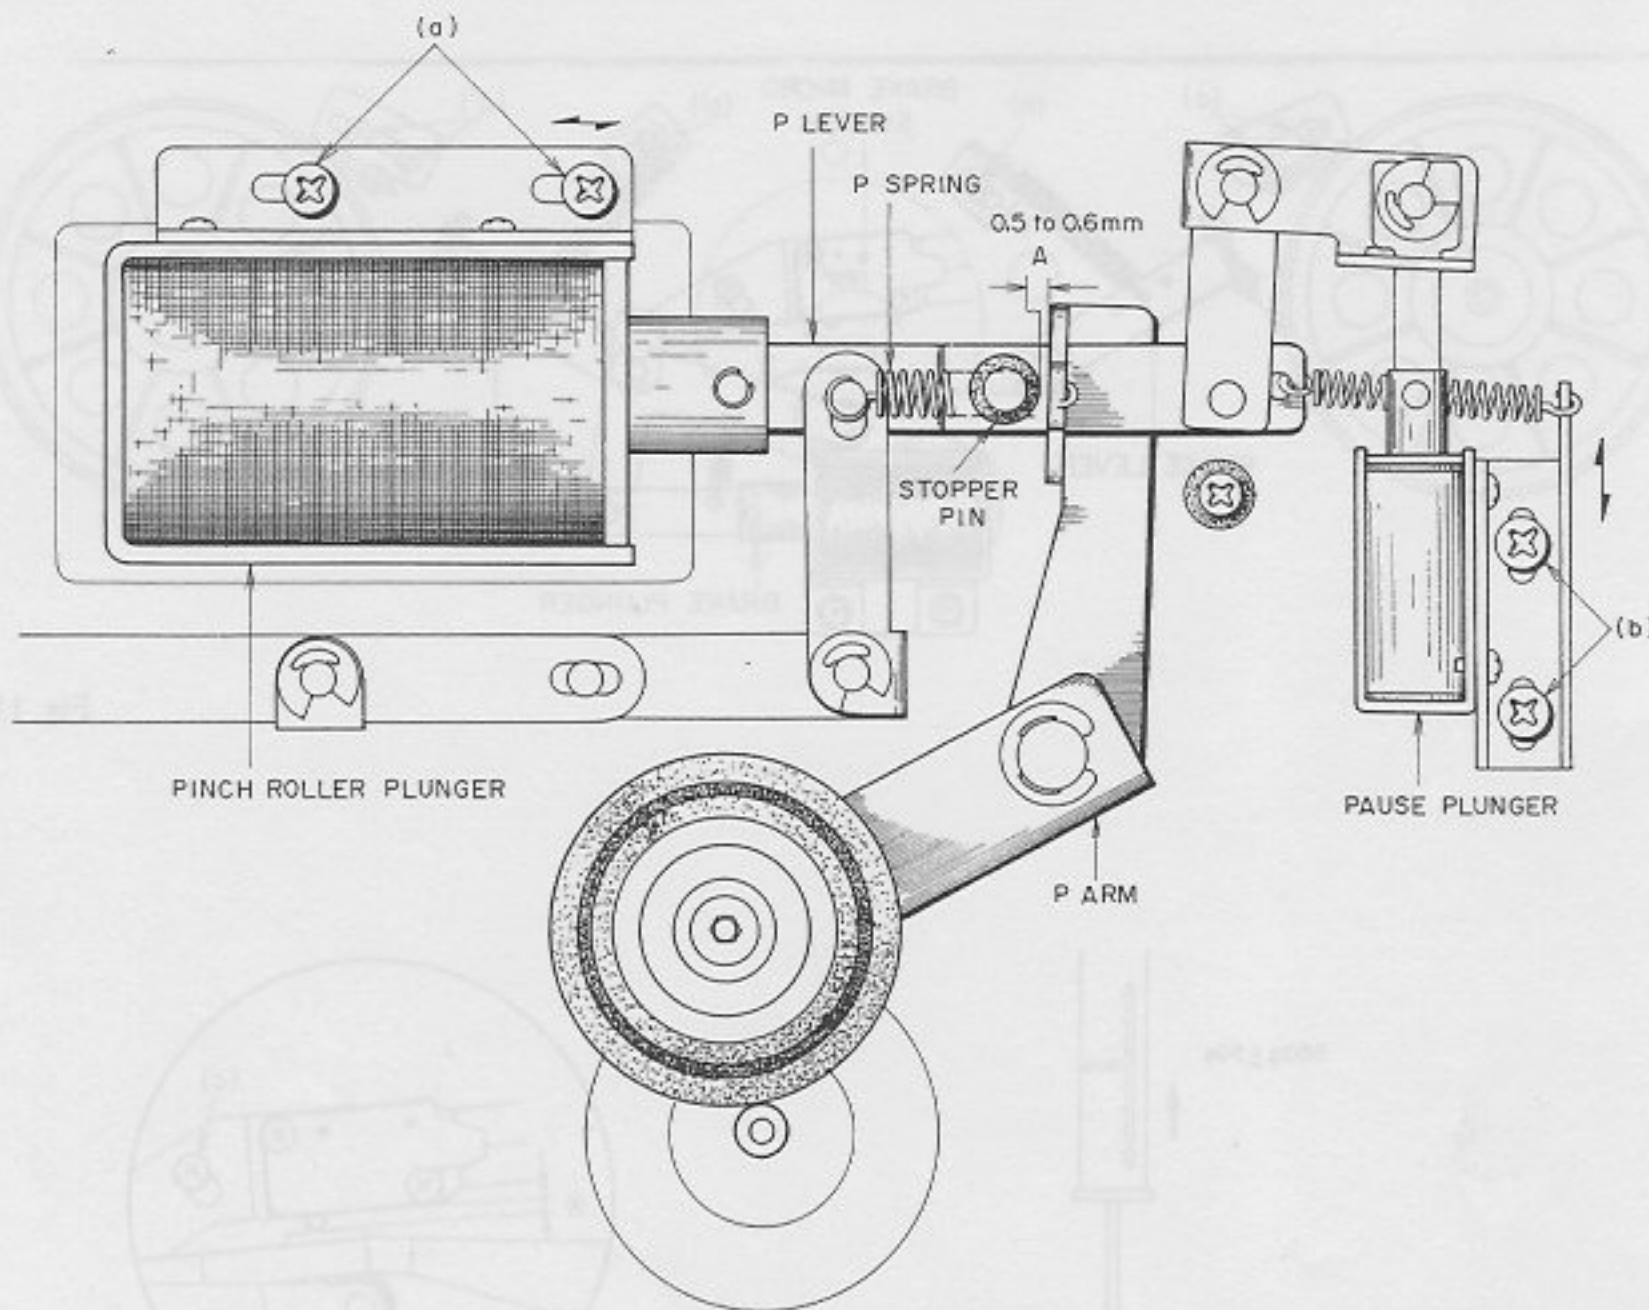

Fig. 18
(Refer to Fig. 18)
7. PAUSE PLUNGER POSITION ADJUSTMENT (Refer to Figs. 18, 19)